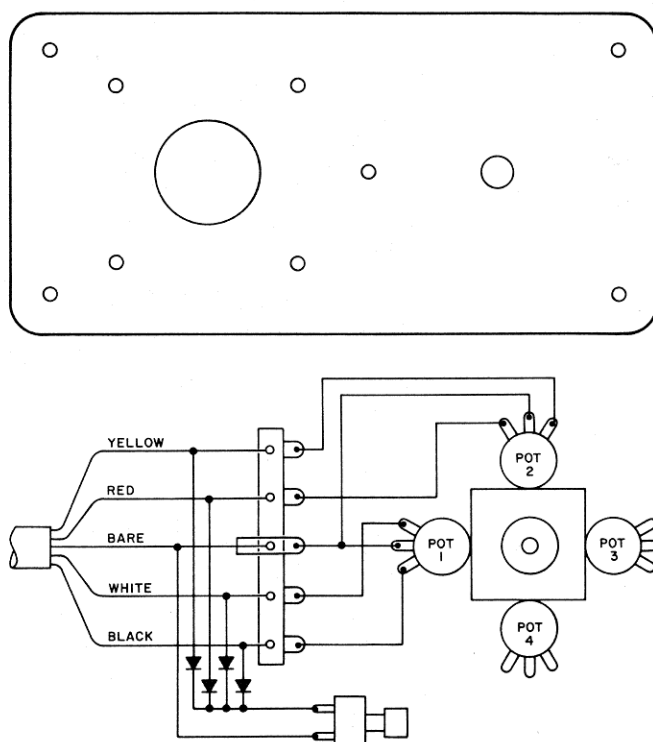
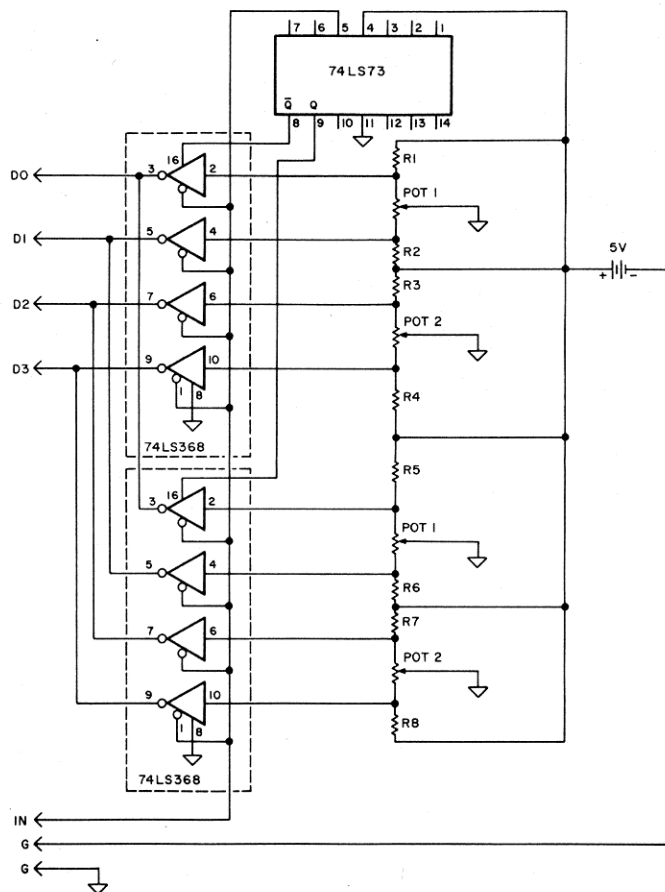

Fig. 1
Fig. 2
- **Broken lines in Fig. 2:** indicate the wire jumpers that go on the underside of the PC board where the foil is.
Using Fig. 1 as a template, cut the mounting holes in the cover of one of the boxes. Mount the joystick, terminal strip, and push button switch to the underside of the cover. Connect a wire to the center tap of pot #2 and run it to the center tap of pot #1 then to terminal #3 on the terminal strip. (See Fig. 2). Solder a wire to the bottom tap of pot #1 to terminal #5 on strip. Fasten a wire to the top tap of pot #1 to terminal #4. Connect a wire to the top tap on pot #2 then to terminal #1. Run a wire from the bottom tap of pot #2 to terminal #2. Fasten a diode to each of the terminals (1, 2, 4, and 5) on the strip. The other ends, with the band around them, are soldered to one side of the push button switch. The other side of the switch is wired to terminal #3 on the terminal strip.